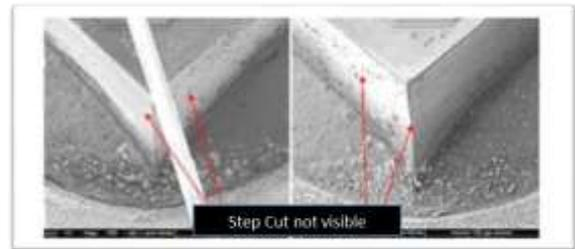

Fig. 2. DAF Sagging or Bleed out
- Currently step cut not visible shown on figure 2, have been prevalent due to the blade thickness variation is becoming larger and machine tolerances are increasing.